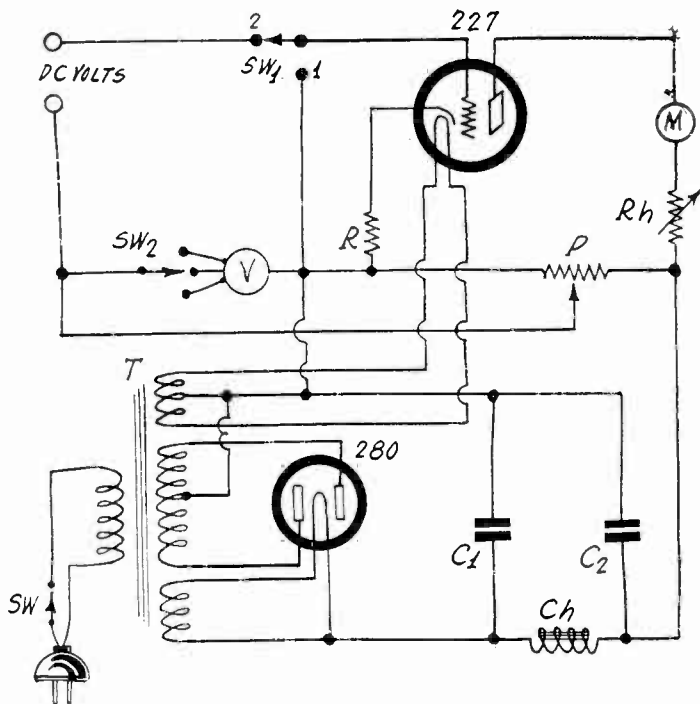

FIG. 978
The direct current potential meter shown in Fig. 978 will serve the purpose excellently. In fact, it is a wonder that such a device as this is so seldom used. You will notice that there is a rectifier and that its voltage is applied to the plate of a 227 tube, in which circuit there is a current meter, M. The voltmeter is located in the measuring circuit that is closed when the measured circuit is included (across the terminals marked D-C Volts). The theory of operation is that the unknown voltage is measured by the bucking voltage of this device (see pointer of P), the known voltage being measured by the meter V as that in the left-hand portion of the potentiometer. The switch SW-1 is thrown to one position for balance, to establish a negative bias, not high enough of course to cut off plate current, but high enough to prevent flow of grid current. At position (1) there is no bias, and we read the meter M and note the reading. Rh can be used to make this reading an even number. Move the slider of P at or near the ground end, and pick up position (2). The plate current will drop. The slider can be moved to re-establish the current at what it was. Now the unknown voltage is equal to the reading on the meter V. For more complete details about this system see the October 31st issue of RADIO WORLD, which contained an article on the subject.